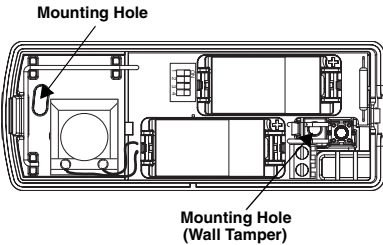

Figure 3. Sensor Mounting Holes
2. Using the flathead mounting screws, secure the base to the mounting surface either vertically or horizontally as required (see Figure 3).